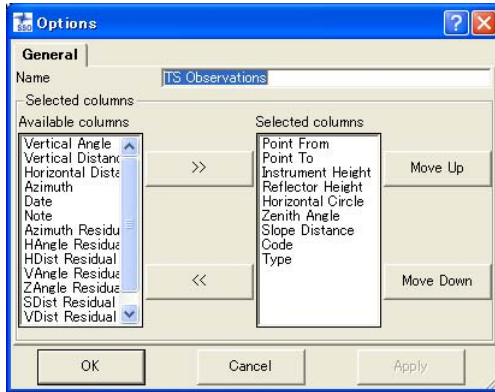

Figure 7-24. Item Options – TS Obs Report
- TS Obs Report – edit the name, select parameters to include or exclude using the move right/move left buttons, order the display of parameters using the Move Up/Move Down buttons, and click **OK** (Figure 7-24).